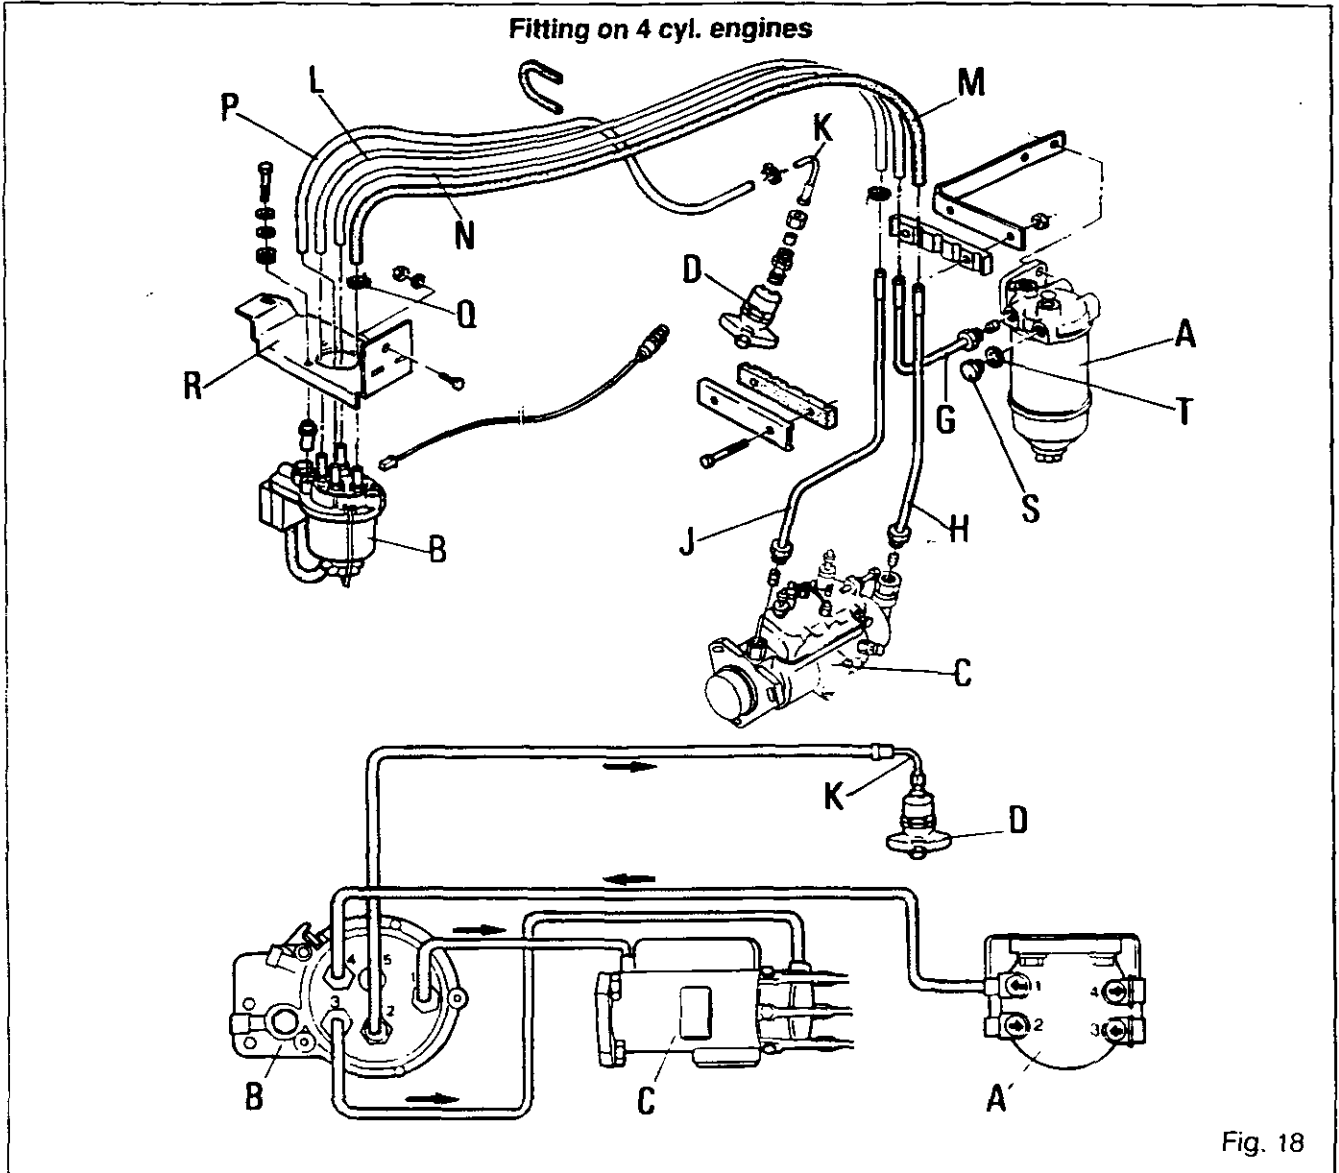

Fig. 18
d) Then position the flowmeter on its bracket **(R)** (as shown Fig. 18).